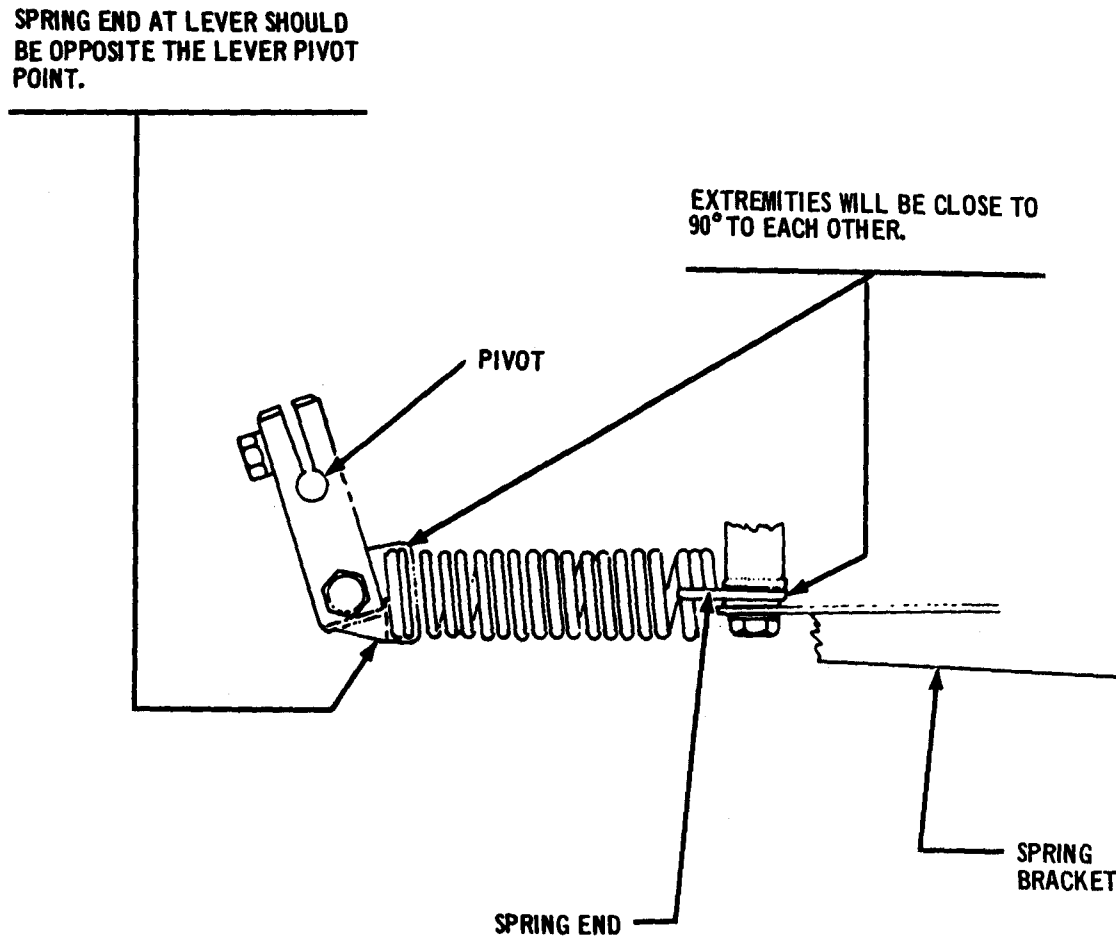

Figure 3-45A. Governor Spring Installation, Proper Alignment
8. Position rack lever (13) and governor output lever (27) in no fuel position (toward rear of generator set). If necessary loosen rod end nut and adjust rod end until screw holes in governor output lever (27) and rod assembly (17) are aligned. Tighten rod end nut. Secure rod assembly to governor output shaft with screw (9), nut (15), and washers (16 and 18).
9. Connect spring assembly (23) to governor output lever (27) and spring bracket as follows:
(a) The left-hand extremity should be mounted on the governor output lever (27) so that the end of the spring that is against the extremity (three spring coils visible) is facing inboard toward the governor (Ref. Fig. 3-45A). Insert centering washers (22 & 24) on each side of the extremity and mount the spring assembly (23) on the governor lever (27) by installing hardware (20, 21, 25). Do not tighten hardware at this time.
(b) Place a centering washer (2) on each side of the right-hand extremity and place bolt (4) through the extremity and washers. Grasp the spring body and pull until the bolt and extremity can be mounted on the spring brackets. The end of the spring that is against the extremity (3 spring coils visible) should be facing up (Ref. Fig. 3-45A). Install hardware (1, 2) making sure that the right-hand extremity is mounted flat against the bracket. The spring may have to be rotationally torqued in order to install the extremity flat on the bracket.
6. Position precise governor actuator shaft and rack lever (17) in the full fuel position (toward front of generator set). If necessary loosen rod end and adjust rod end until screw holes in the precise governor actuator and rod assembly (7) are aligned. Make sure feeler gauge is in position and tighten rod end nut. Secure rod assembly to precise governor actuator with screw (2) and nut (1). Remove feeler gauge.
7. Make sure governor output shaft is in no fuel position (full counterclockwise looking at shaft). Position governor output lever (36) on governor output shaft so that when a horizontal line is drawn through center of shaft, center of spring assembly (32) hole is 6 degrees \pm 5 degrees forward of shaft center line. Tighten setscrew (35).
8. Position rack lever (17) and governor output lever (36) in no fuel position (toward rear of generator sets). If necessary loosen rod end nut and adjust rod end until screw holes in governor output lever (36) and link assembly (14) are aligned. Tighten rod end nut. Secure rod assembly to governor output shaft with screw (12), nut (11), and washer (13).
9. Connect spring assembly (32) to governor output lever (36) and spring bracket as follows:
(a) The left-hand extremity should be mounted on the governor output lever (36) so that the end of the spring that is against the extremity (three spring coils visible) is facing inboard toward the governor (ref. fig. 3-45A). Insert centering washers (34) on each side of the extremity and mount the spring assembly (36) on the governor lever (36) by installing hardware (30, 31, 33). Do not tighten hardware
(b) Place a centering washer (29) on each side of the right-hand extremity and place bolt (28) through the extremity and washers. Grasp the spring body and pull until the bolt and extremity can be mounted on the spring bracket. The end of the spring that is against the extremity (3 spring coils visible) should be facing up (ref. fig. 3-45A). Install hardware (26, 27) making sure that the right hand extremity is mounted flat against the bracket. The spring may have to be rotationally torqued